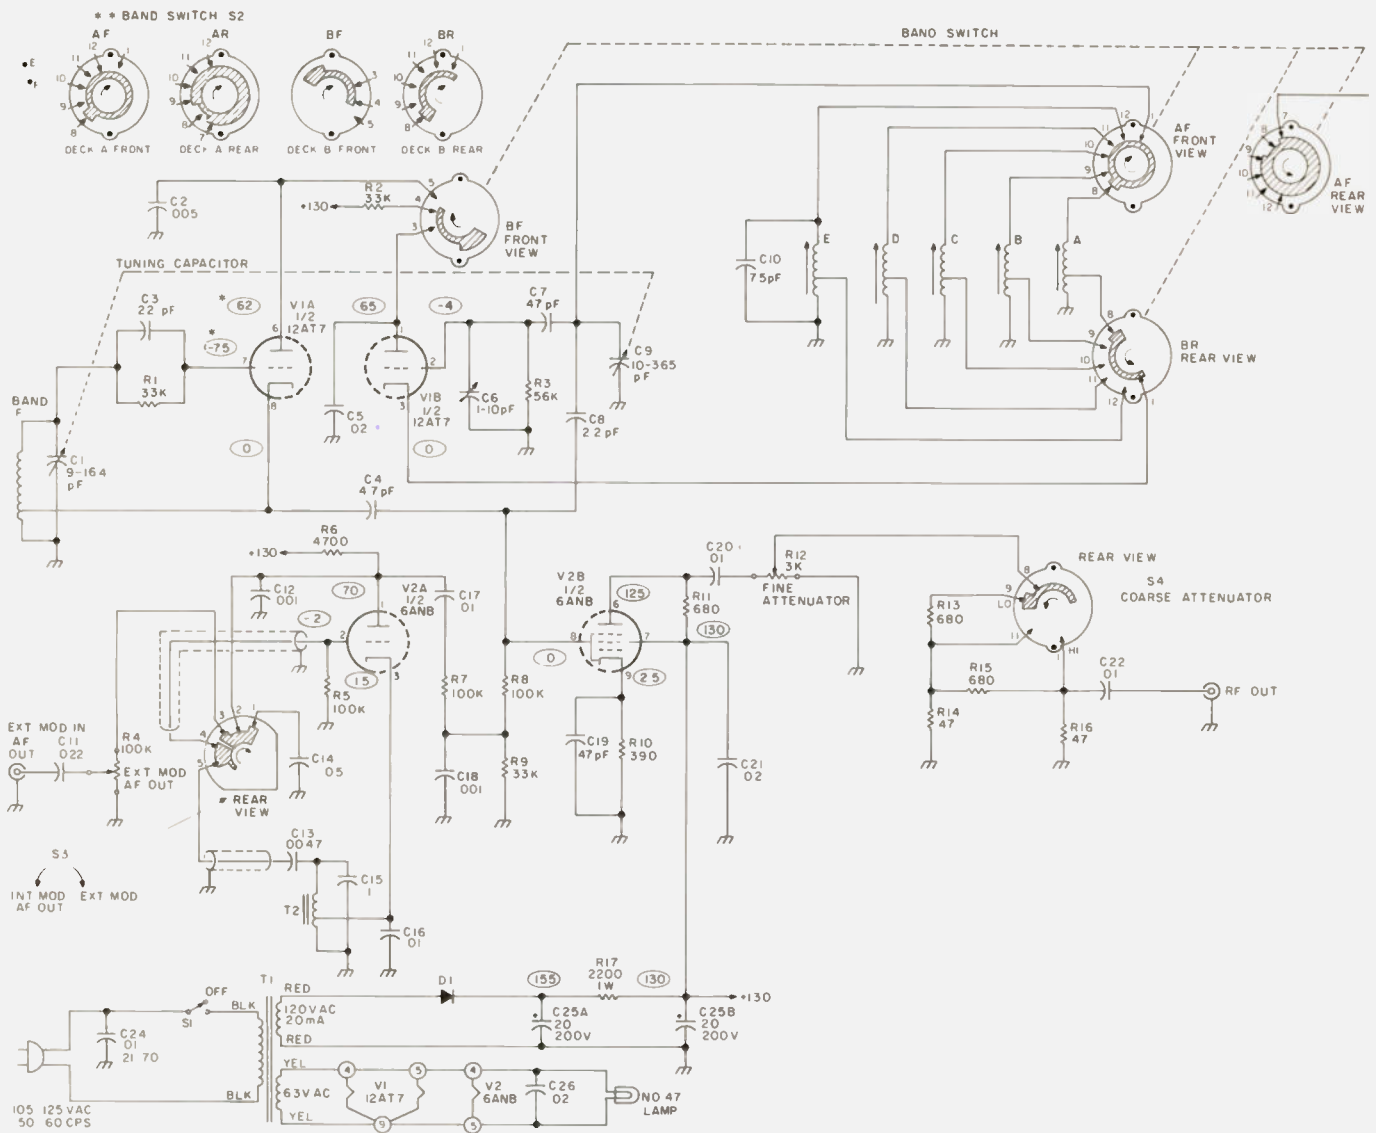

Fig. 1. Original IG-102 circuit.
1. Refer to Fig. 1, a copy of the original circuit.